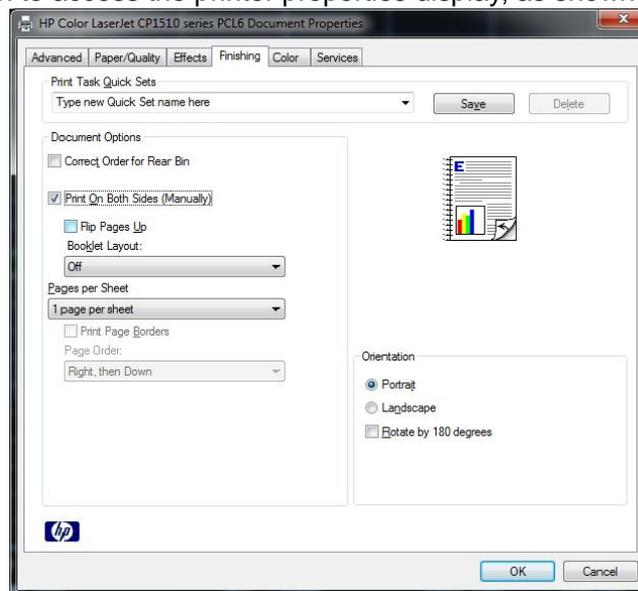

Fig. 3.22 Printer properties display
**Step 2.** Configure the printer. Select the appropriate printer. To customize the configuration, click the Properties button to access the printer properties display, as shown in Fig. 3.22.